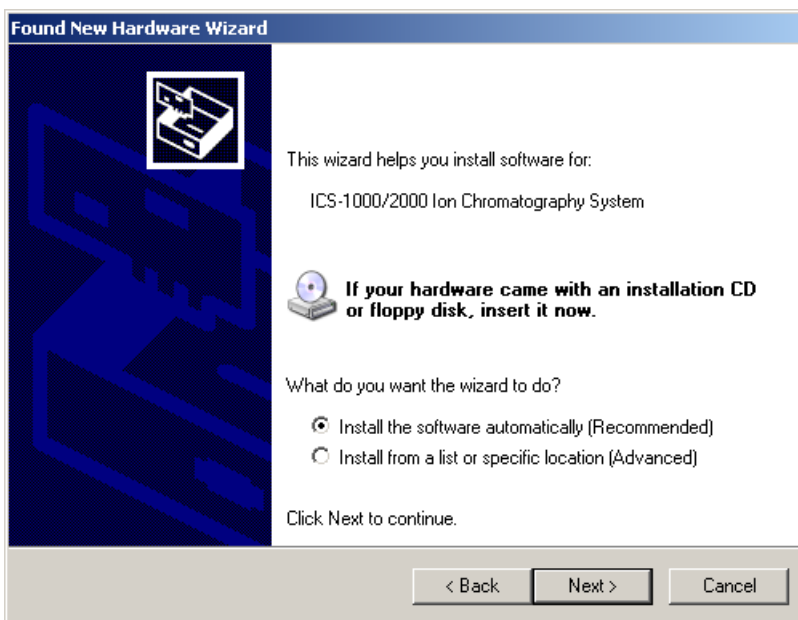

Figure 12. Windows Found New Hardware Wizard
- Select the **Install the software automatically (Recommended)** option (see Figure 12).